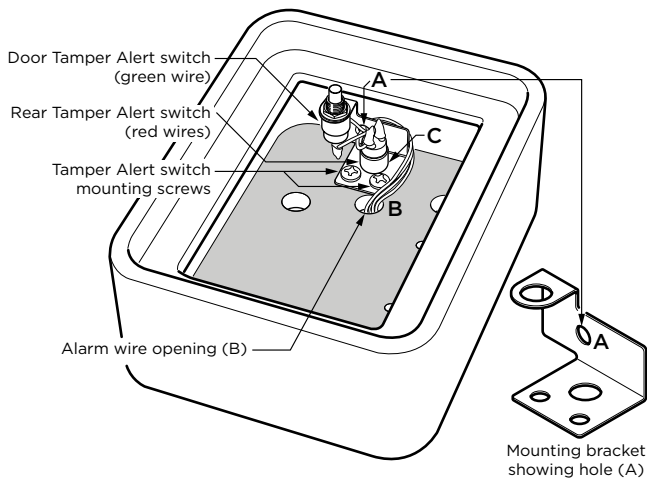

Figure 3
6. Route Tamper Alert wires through hole (A) as shown in Figure 3. Wrap wires behind mounting bracket as shown in Figure 3 and tighten Tamper Alert switch mounting screws. Alarm wiring must be fed back through alarm wire opening (B) to prevent interference with lock mechanism.
7. Connect Tamper Alert wires to building alarm. Alarm wiring must be pulled back through the alarm wire opening (B) to prevent interference with door locking mechanism. Green and Red wires must be secured tightly so that if box is removed, wires will be broken in the process, thereby causing alarm activation. In cases where yellow wires are used, the yellow wires should be loosely secured so that if the box is removed, the wire can pull about an inch to allow the alert to close, causing an alert before wires break.